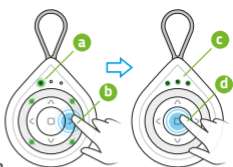

Fig. 10.6
5. All channel LEDs turn on solid and the green LEDs are alternating in clockwise direction (Fig. 10.6).
6. Controller is in data exchange mode - mode is turned on for 60 seconds and the function is renewed after each data exchange request but it is possible to quit this mode by pressing STOP once. (Fig. 10.6).